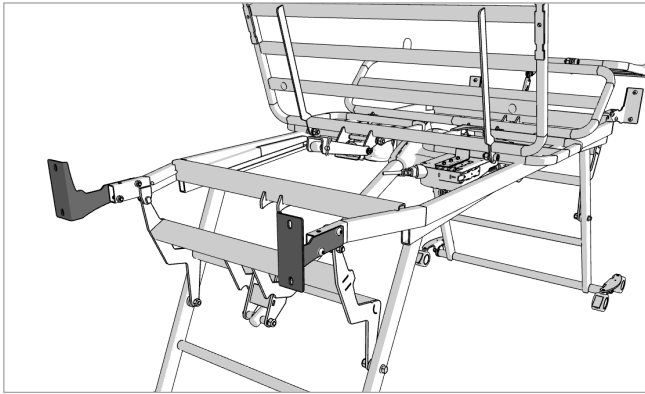
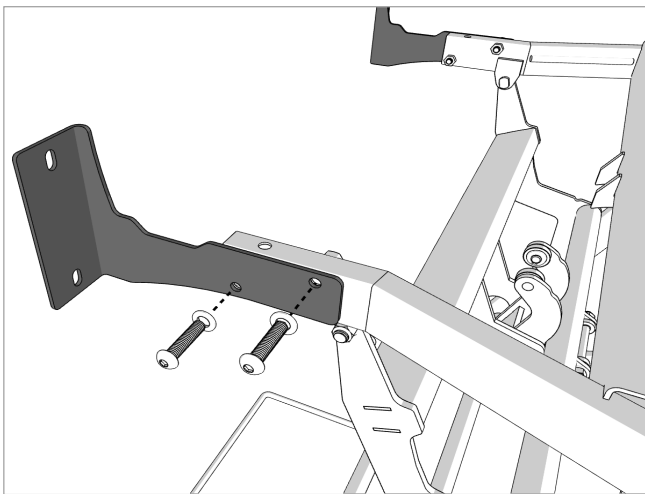

Figure 8.5
Figure 8.6
- Using four M8 x 35 bolts and four M8 Washers with the 5mm Allen Key attach the left and right fixing brackets to the bed frame, and tighten as shown in Figure 8.5 and Figure 8.6.